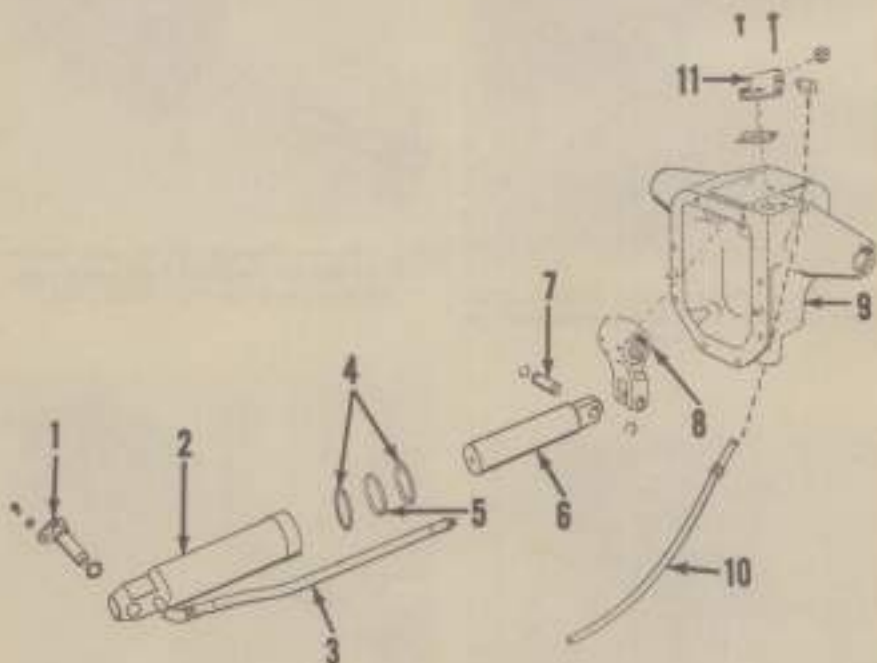
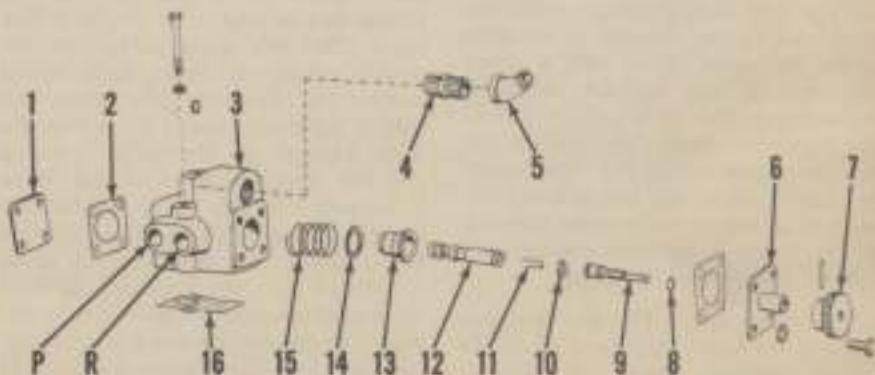

Fig. 162—Exploded view of the lift (rockshaft) ram and associated parts for D-14 and D-15 tractors.
Fig. 166—Expanded view of transport valve available as optional equipment. See paragraph 251.
**247. R&E HOUSING ASSEMBLY.** Drain oil from transmission and "Power-Director" compartment. Unbolt and remove pto shaft assembly from rear face of housing. Remove drawbar brackets. Remove oil lines from oil distribution housing or transport valve. On D-14 and D-15 tractors, remove the retaining screw from ram cylinder pivot pin (1—Fig. 162) and pull pin from housing. On D-17
**251. TRANSPORT VALVE.** Transport valve (See exploded view in Fig. 166) is used on tractors in place of the oil distribution housing (11—Fig. 162 or 15—Fig. 163) to permit use of "Traction-Booster" action when pulling certain large pull type implements that are equipped with single acting remote lift cylinder and transport wheels. With knob (7—Fig. 166)